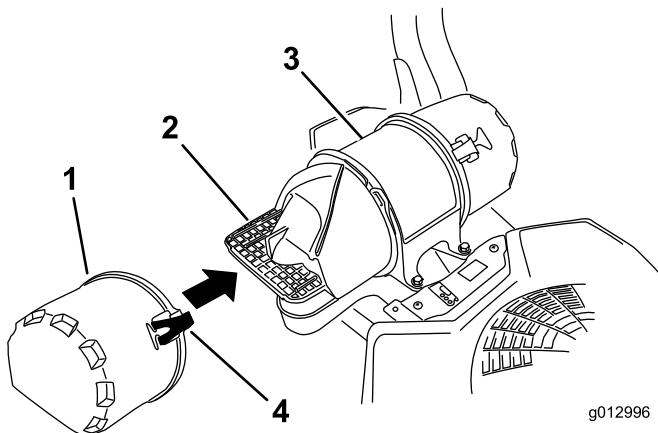

Figure 45
3. Release the latches on the air cleaner and pull the air inlet cover off the air cleaner body (Figure 45).
5. Install the air inlet cover and secure it with the latches (Figure 45).